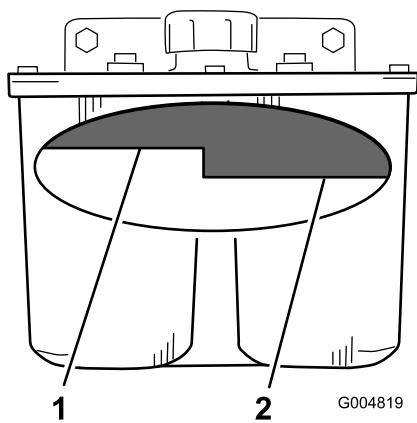

Figure 76
4. Clean the area around filler neck of hydraulic tank (Figure 76).
5. Remove the cap from the filler neck. Look inside to check if there is fluid in the reservoir (Figure 76).
Note: The fluid level should be to the top of the hot level of the baffle, when the fluid is hot (Figure 76).